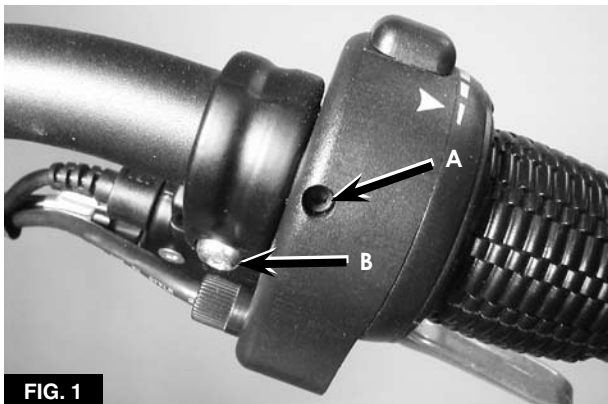

FIG. 1
3. Loosen the throttle set screw (**A, Figure 1**), shifter set screw (**A, Figure 2**), the reflector clamp bolt, and the clamp bolt on each brake lever (**B, Figure 2**)
6. Loosen the throttle set screw (A, **Figure 1**), and remove the throttle from the handlebar end. If necessary, remove the handlebar (this chapter) to ease throttle removal.